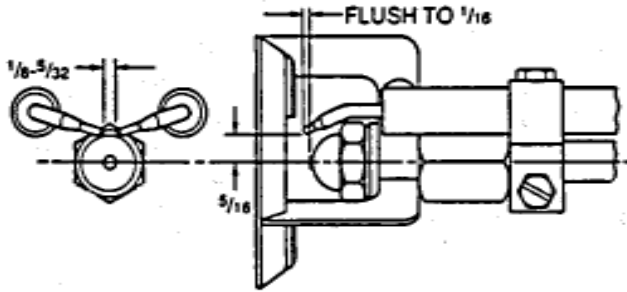

Figure 10: Electrode Settings
- a. Loosen two (2) igniter latching screws, rotate tabs and swing open igniter about hinge.
- j. Inspect and measure burner electrodes. Refer to Figure 10 for proper electrode setting. Readjust electrode setting to the proper dimensions if necessary.